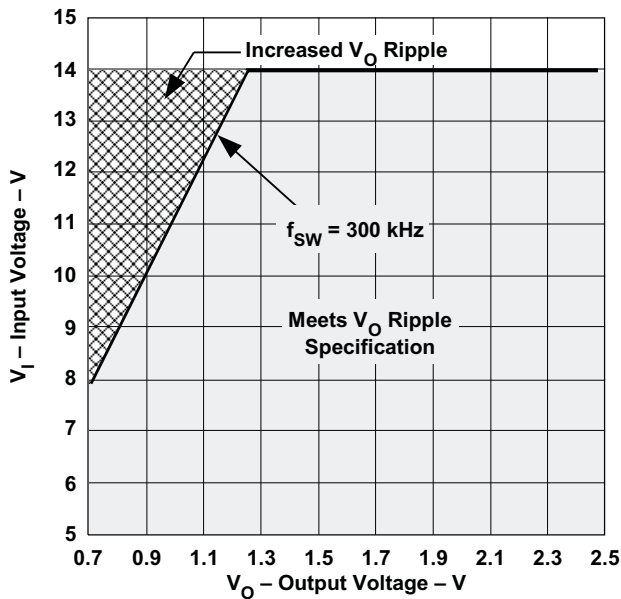
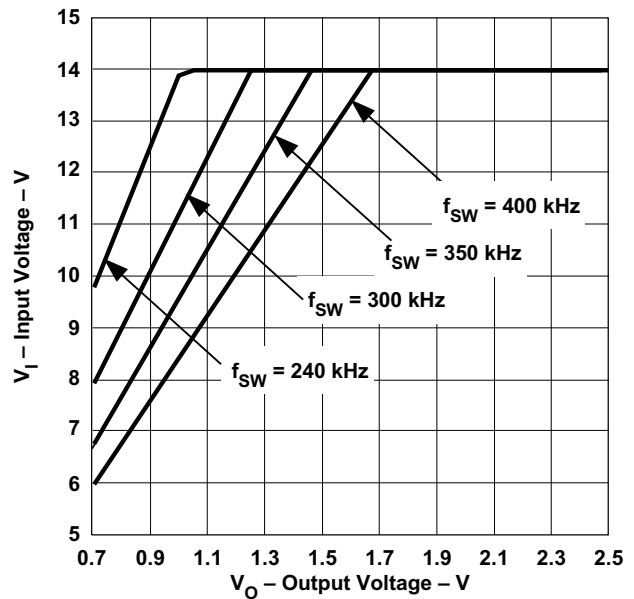

Figure 25. V_O Ripple Regions at 300 kHz
Figure 26. V_O Ripple Regions
Synchronizing to a higher frequency and operating with a low duty cycle may impact output voltage ripple. When operating at 300 kHz, Figure 25 shows the operating region where the output voltage ripple meets the electrical specifications and the operating region where the output voltage ripple may increase. Figure 26 shows the operating regions for several switching frequencies. For example, a module operating at 400 kHz and an output voltage of 1.2 V, the maximum input voltage that meets the output voltage ripple specification is 10 V. Exceeding 10 V may cause an increase in output voltage ripple. As shown in Figure 26, operating below 6 V allows operation down to the minimum output voltage over the entire synchronization frequency range without affecting the output voltage ripple. See the ELECTRICAL CHARACTERISTICS table for the synchronization frequency range limits.
- A. For Figure 25, operation above a given curve may cause the output voltage ripple to increase (typically $2\times$).
- B. For Figure 25, when operating at the nominal switching frequency refer to the 300 kHz plot.
<ul style="list-style-type: none"> • Changed made Figure 25 viewable • Changed made Figure 26 viewable 	27 27